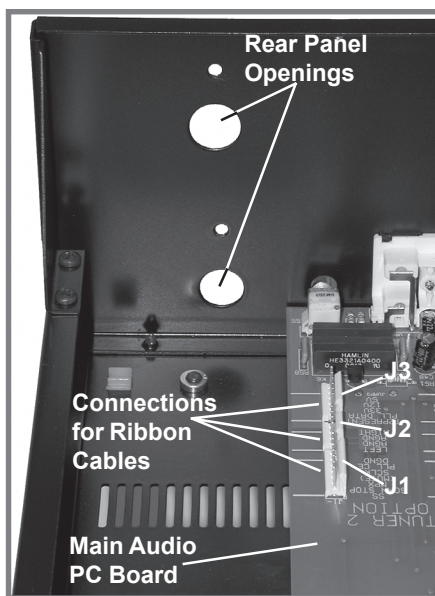

Figure 29
5. Locate the three supplied ribbon cables from the shipping carton and attach the plug of the Six Conductor Ribbon Cable to the six pin PC Board Socket "J3" as indicated on the MR85 Main PC Board. Refer to figure 1 (on page 3) and figures 29, 31.
will fit through the lower opening of the MR85 Rear Panel (the cover was previously removed in Step 4) and the three PC Board Connectors are facing up. Refer to figures 29, 30 and 32.